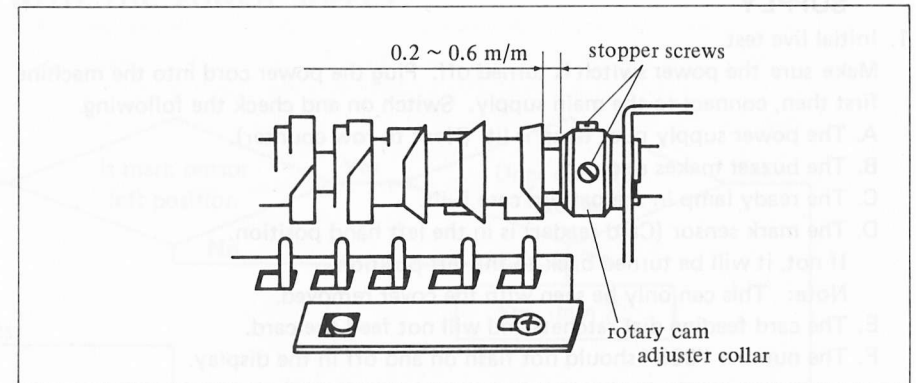

Fig. 14
2. Take the clearance of 0.2–0.6 mm (TYP. 0.3 mm) between the rotary cam and the rotary cam adjuster collar, then fasten the two rotary cam adjuster collar stopper screws securely. (Fig. 14).